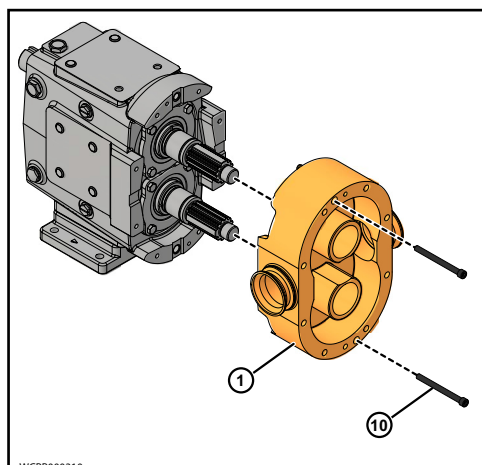

Figure 35 - Remove Pump Body
- Remove the pump body (1) by pulling it straight off the studs (Figure 35). Use a soft hammer to assist if the body is stuck tight.